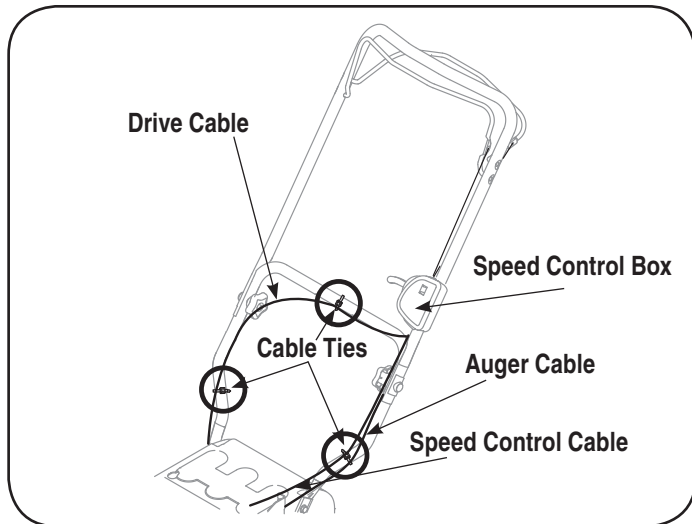

Figure 4
**NOTE:** The auger cable and speed control cable route down the left lower handle from the speed control box. The drive cable is routed across the top of the lower handle and down the right side of the lower handle. See Figure 4.
7. Three cable ties have been used to loosely tie the control cables to the lower handle, including the cable tie you relocated in step 3. Position cable ties now, as in Figure 4, and tighten to secure cables to the lower handle. Trim off excess material of cable ties.